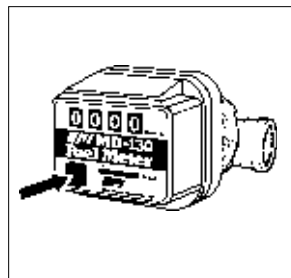

Figure 3
The large meter display represents the Batch Total for each fuel delivery. Before dispensing, reset the Batch Total to zero by pushing the reset button. (Figure 3)
2. Reset the meter counter to zero by pressing the reset button. (Figure 3)